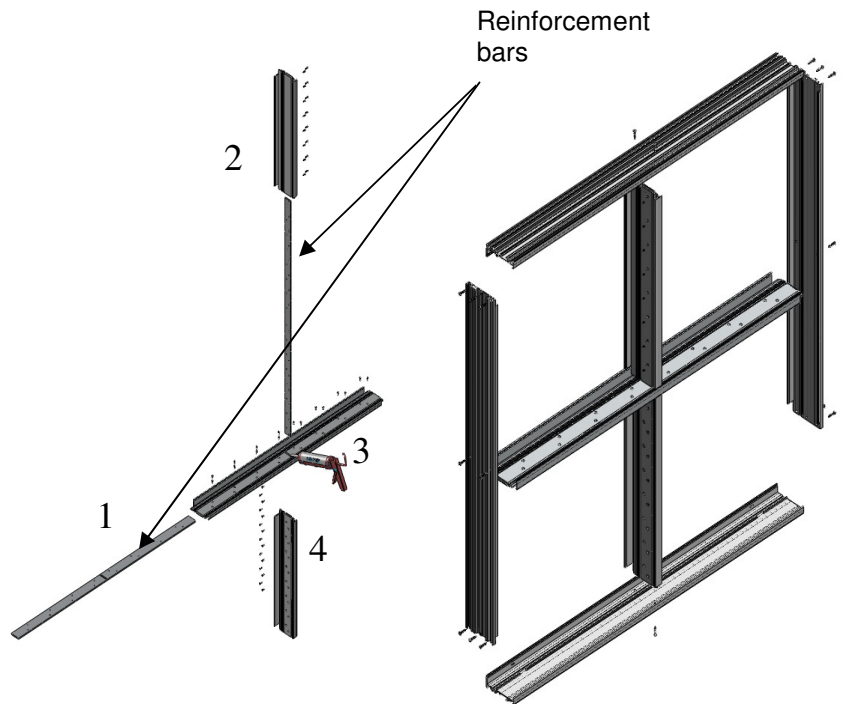

Figure 8:
2. Insert horizontal reinforcement bar (2.0" x .25) into cavity of one horizontal TDL and fasten with screw # 8 x 5/8 flat head screws provided (step 1, Figure 8).
3. Insert vertical reinforcement bar (1.5" x .25) into cavity of upper vertical TDL and fasten with screw # 8 x 5/8 flat head screws provided (step 2, Figure 8).
4. Apply a compatible sealant to the slot and vertical reinforcement bar (step 3, Figure 8).
5. Insert upper vertical reinforcement bar assembly through the slot of horizontal TDL then insert into cavity of lower vertical TDL and fastening with screw # 8 x 5/8 flat head screws provided (step 4, Figure 8).
6. Fasten top & bottom frames to vertical TDL (Figure 8).
7. Fasten side frames to horizontal TDL (Figure 8).